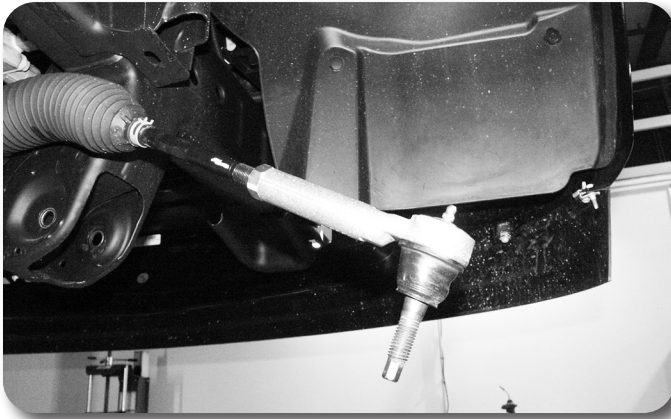

Figure 11
28. Working on one side at a time, remove the tie rod end from the steering link **Figure 11**. Trim 3/8" off of both the tie rod end and the steering link **Figure 12, 13**. This will allow for proper alignment adjustment once the kit is complete. Once the two pieces are trimmed, clean the ends of the threads and reinstall the tie rod end on the steering link. Repeat on other side of the vehicle.